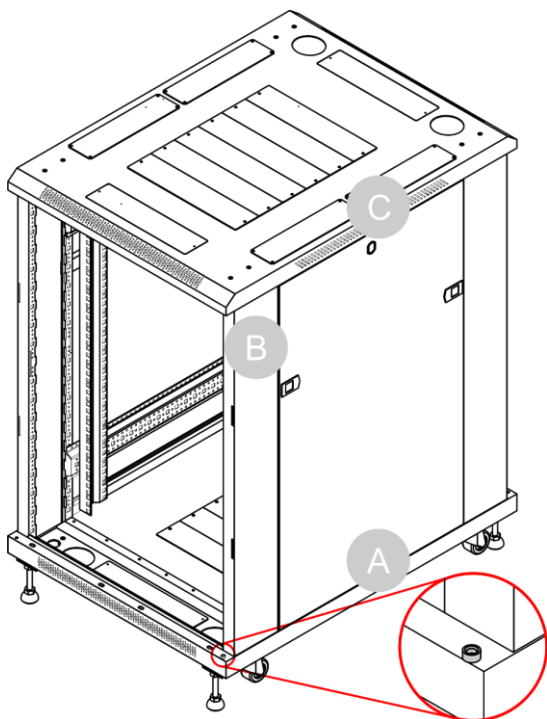

Fig. 39
- 23) Put the **ring (P)** on top of the hole on the **bottom plate (A)**, as shown in Fig. 39.